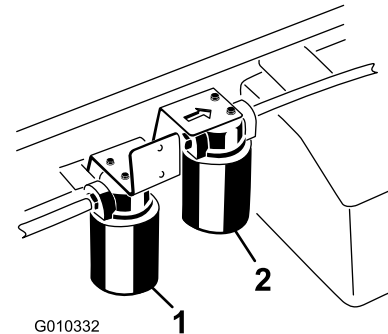

Figure 74
3. Place a drain pan under the filter and remove the filter (Figure 74).
1. Clean the area around the high-flow-filter mounting area (Figure 74).